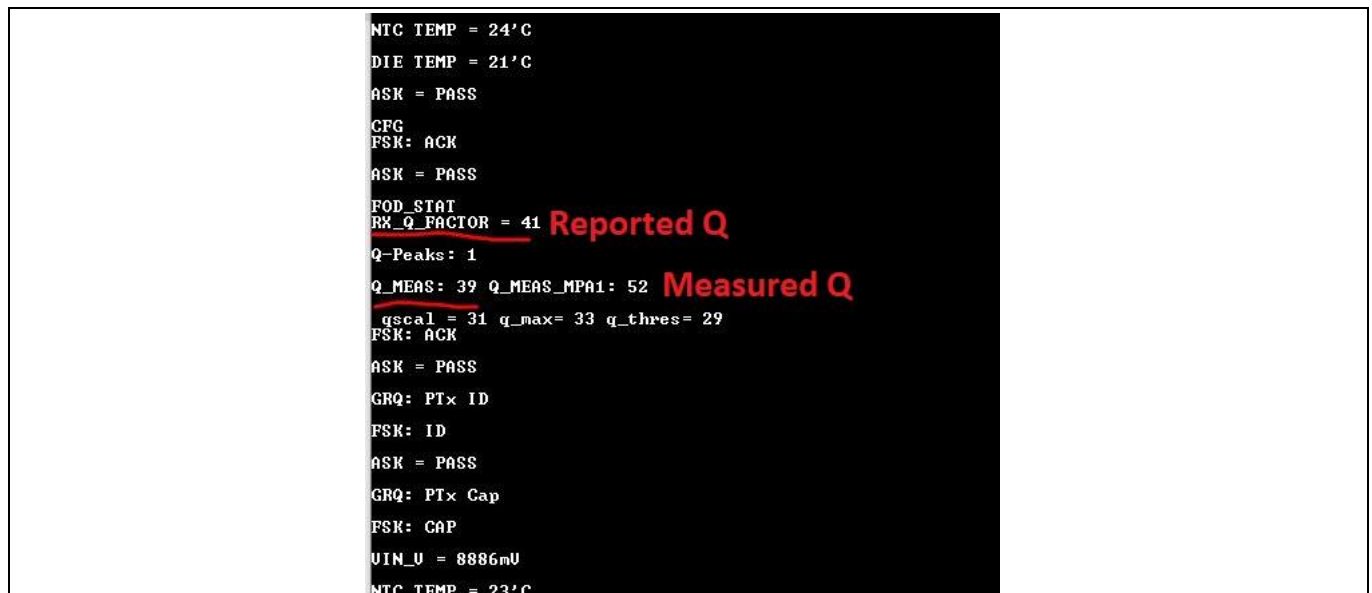

Figure 13 UART logs for receiver-reported and WLC power transmitter measured Q factor
See Figure 13 for the UART logs for receiver-reported reference Q factor.
2. Capture the measured Q value by the WLC power transmitter with all the EPP TPRs listed below. Ensure no foreign object is present on the interface surface during these measurements. See Figure 13 for UART logs for the WLC-measured Q factor.